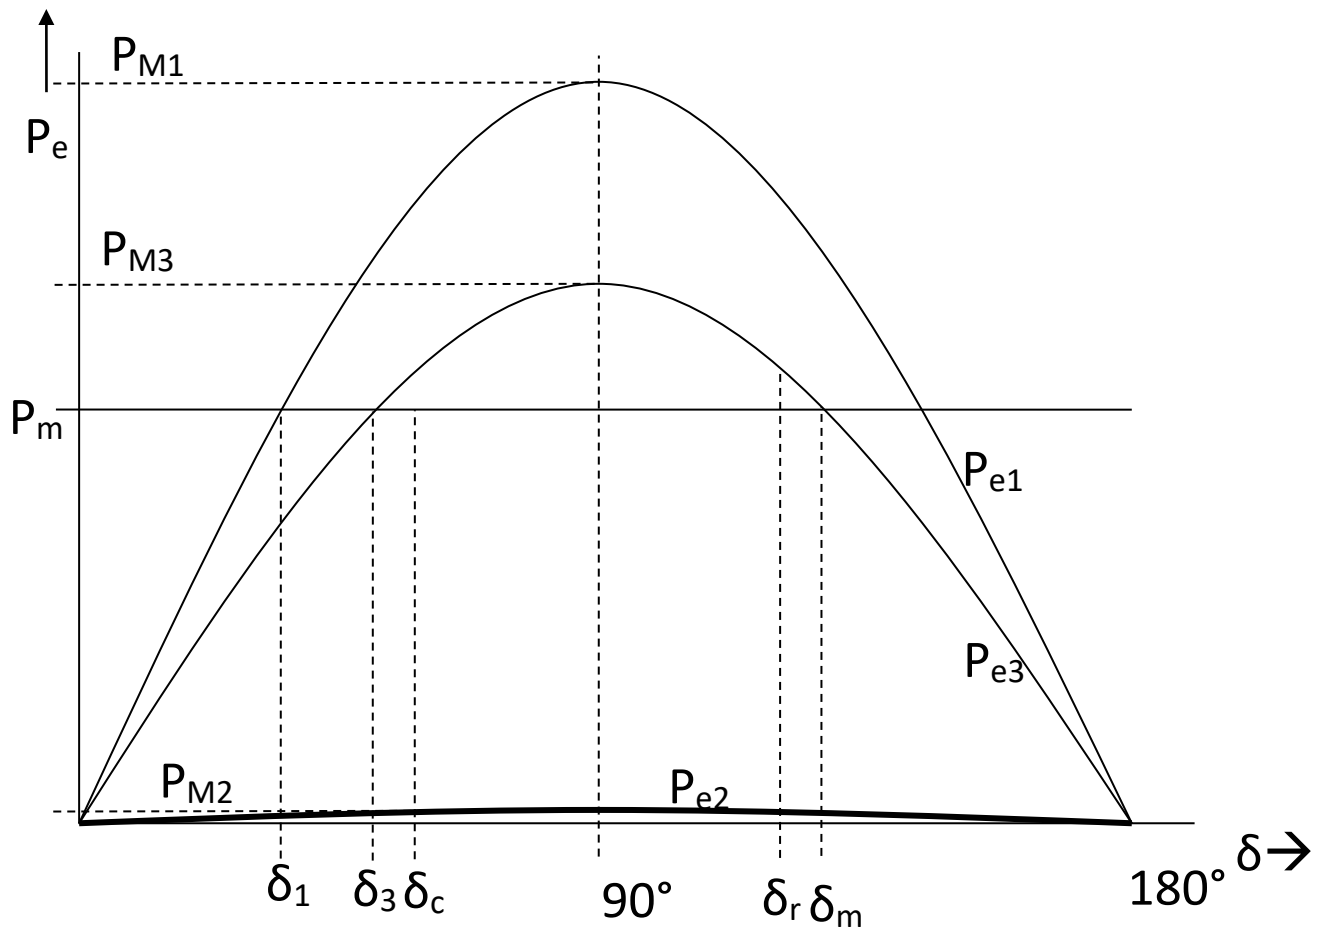

Fig. 13
- ➔ The worst case is when  $P_{e2}=0$ . This occurs when the fault is at the machine terminals. Fig. 13 illustrates.